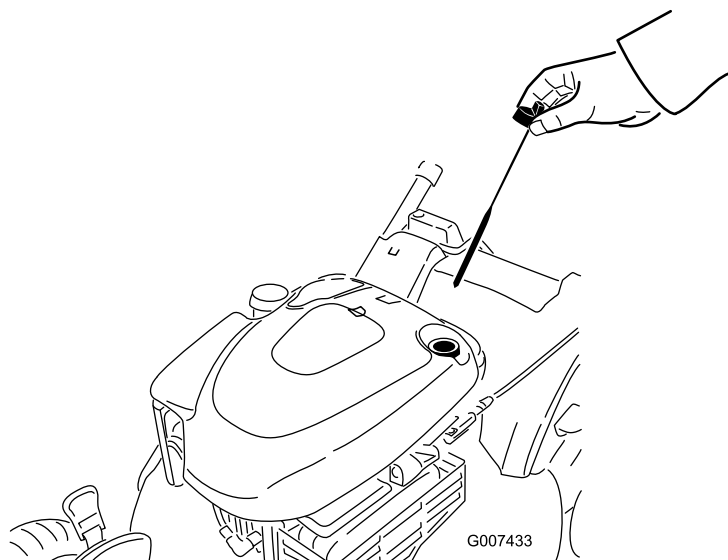

Figure 39
6. Remove the dipstick from the oil-fill tube (Figure 39).